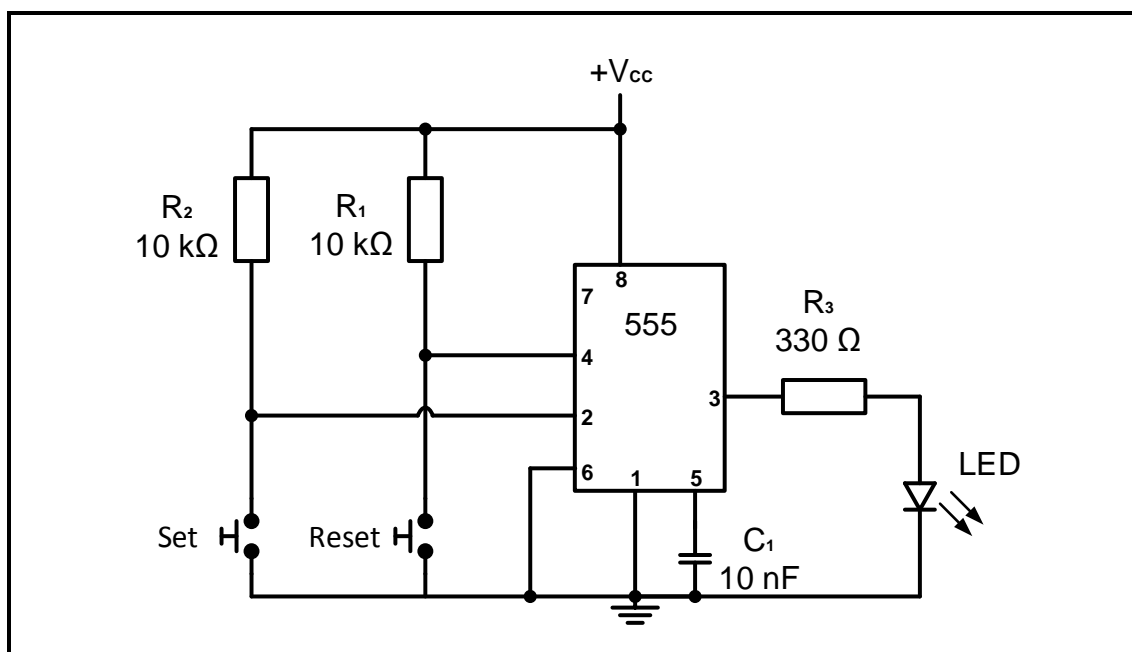

FIGURE 3.4: 555 IC BISTABLE MULTIVIBRATOR
- 3.4 Refer to FIGURE 3.4 below and answer the questions that follow.